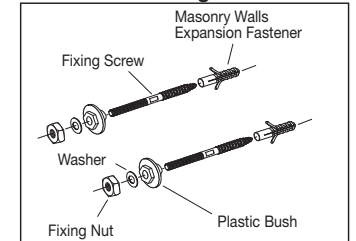

Fig. 2
- 3- Insert expansion fasteners into the drilled holes in masonry wall. Screw fixing screws into the wall using the flats located on the screws section of the stud and spanner as shown in Fig. 2. Allow 50mm ( $2''$ ) of thread to protrude from the finished wall.